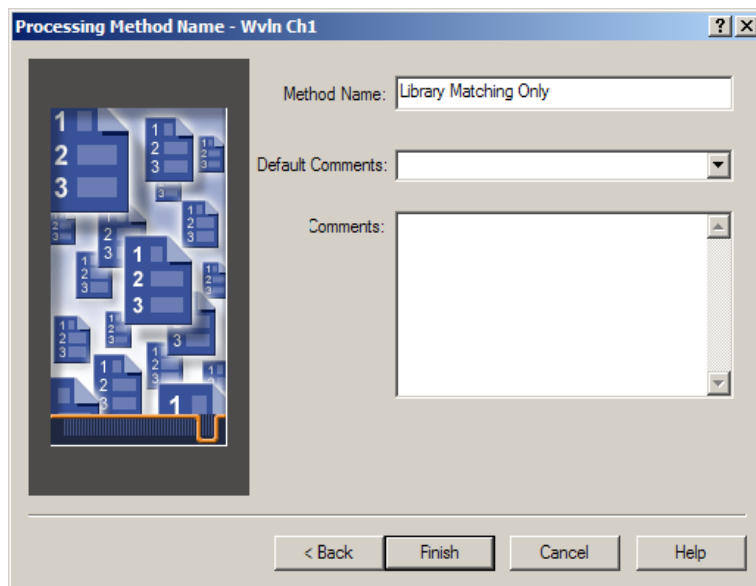

Figure 4-27 Processing Method Name Page
15. Select the check box for the library(s) you want to match against, for example, **My Library**, then click **Next** to go to the Processing Method Name page (Figure 4-27).